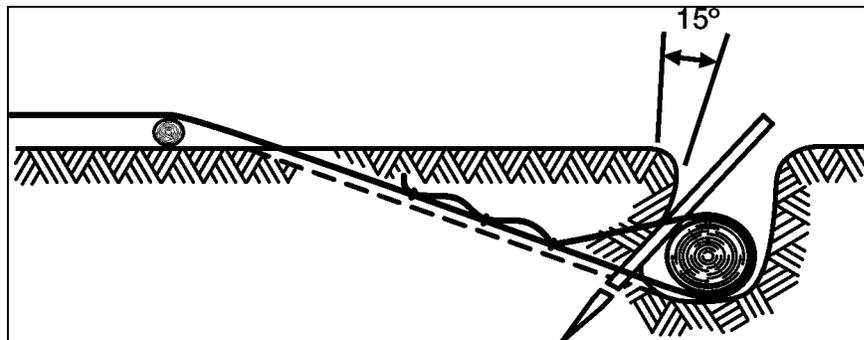

Figure 3-74. Deadman Log Anchor
- a. Deadman log anchor (see Figure 3-74).
- (1) Select a place where the direction of pull is as nearly horizontal as possible, such as a sharp bank or crest.
- (2) Dig and slant the bank at least 15 degrees from the vertical and undercut toward the disabled vehicle.
- (3) Drive stake in front of the deadman at each end to hold it in place.
- (4) Tie the deadline to the center of the deadman, so the main standing part of the line leads from the bottom of the deadman.
- (5) Dig a narrow trench for the deadline to the center of the deadman.
- (6) Tie the deadline to the center of the deadman so that the main part of the line leads to the bottom.
- (7) Connect the deadline to the vehicle winch cable.
- (8) Operate the winch according to the appropriate vehicle TM to pull the vehicle free.
- (9) Stop the winch and remove winch cable, then rewind.
- (10) Replace the dirt into the hole in which the anchor was constructed.